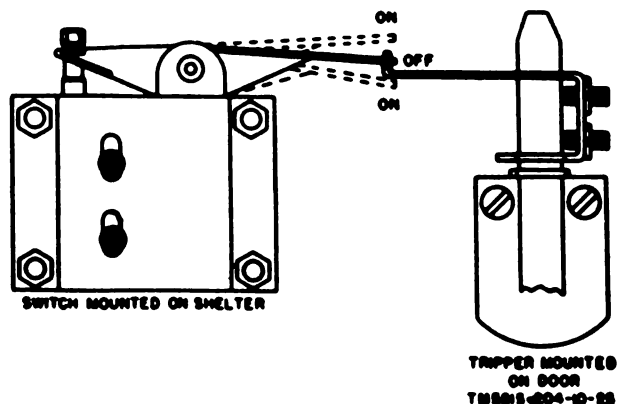

Figure 11. Blackout switch.
22. Blackout Switch (fig. 11)
- (1) Start the vehicle engine; run it at a fast idle.
- (2) Release the tiedown Rope RP-5 from the antenna. For best results, operate the antenna in a vertical position.
- (3) Check to see that the braided ground strap, located on the outside rear bottom of the shelter, is connected to the vehicle frame.
- (4) Set the junction box LIGHTS switch at ON. In the AN/GRC-46(*), the junction box LIGHTS switch is in series with the blackout switch (fig. 11). When the shelter door is open, the blackout switch must be in its lowest position for the lights to go on.
- (5) Set the junction box BLOWER switch at ON. The blower motor will start, and the damper flap on the shelter will swing open freely.